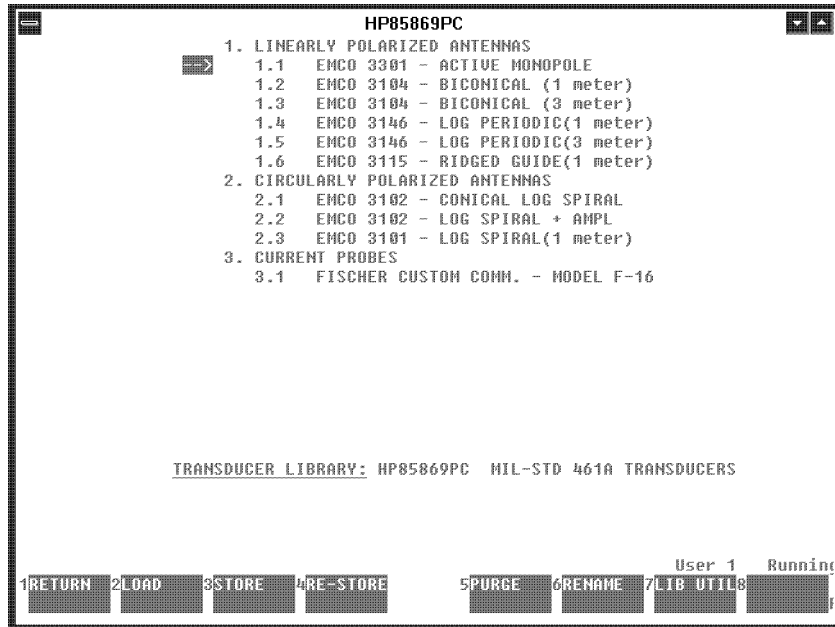

Figure 6-15. Predefined Transducer Library
There are six predefined transducer libraries supplied with this software; one for each test category. One example of a transducer library is shown in Figure 6-15.
2. Press **Library** to access the transducer library table. A predefined transducer library table is shown in Figure 6-15.